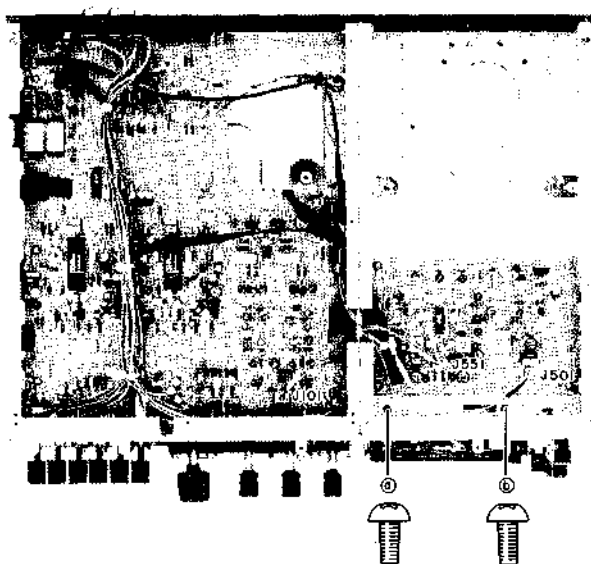

Fig. 4-3
- 1) Remove connector J101 from the PRE AMP PCB and the J501 and J551 from the OSC PCB. Next, remove mechanism block securing screws ③ and ⑥. (See Fig. 4-3.)